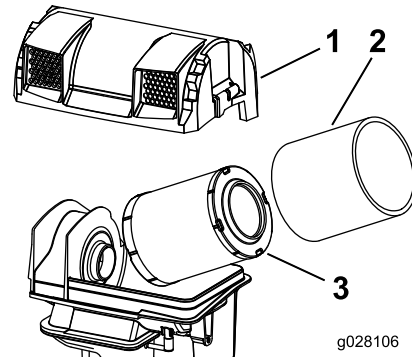

Figure 58
3. Remove the foam and paper elements (Figure 58).
4. Remove the foam element from the paper element (Figure 58).
2. Install the elements onto the air-cleaner base (Figure 58).